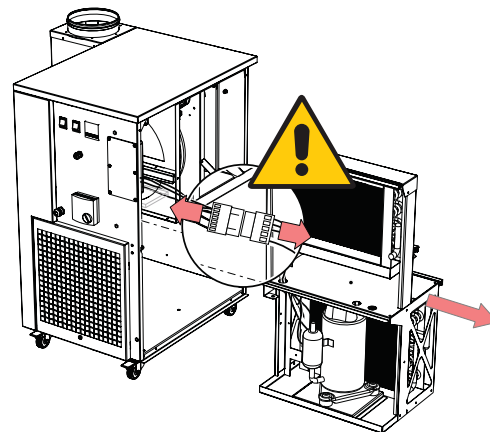

FIGURE 16: Refrigerant system
4. Carefully pull out the refrigerant system and unplug the connector. "FIGURE 16: Refrigerant system"